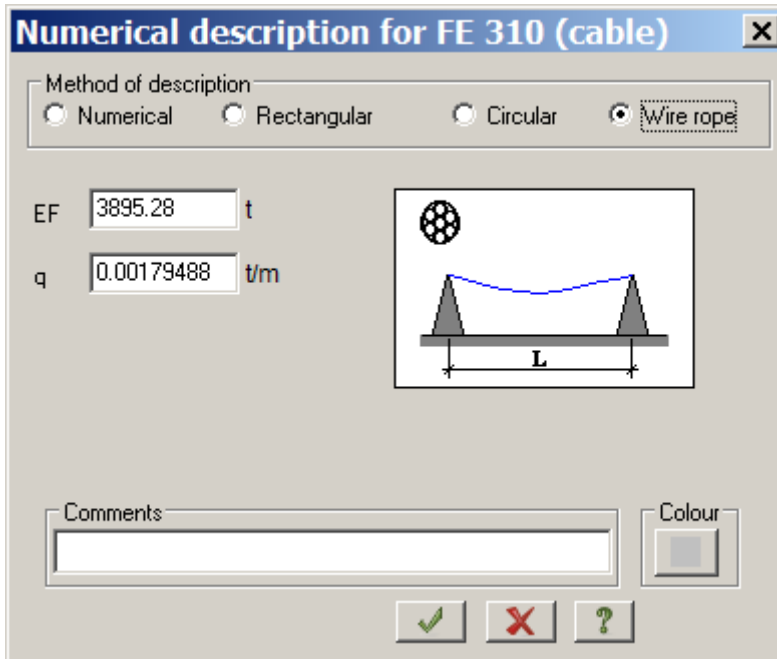

Figure 8.12 Numerical description for FE 310 (cable) dialog box
- ⇒ In the **Numerical description for FE 310 (cable)** dialog box (see Fig.8.12), select the **Wire rope** option.